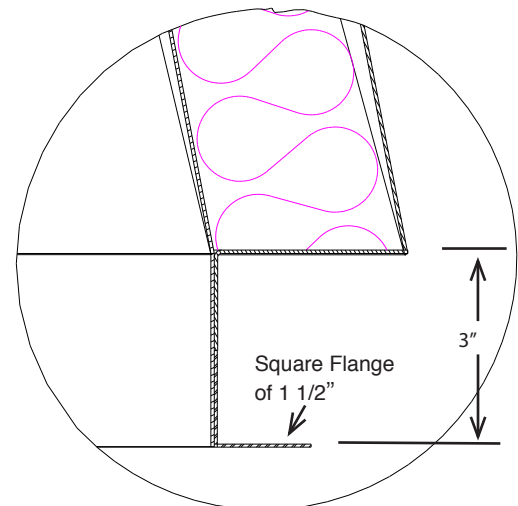

Figure 98b: Option 2 for the STR and ESTR
Option 2: A Flange at the square end to be used for a bolted or welded connection in accordance with NFPA 96. See Figure 98b.
- 2- Options for the square end (See **Figure 98a** and **Figure 98b**)